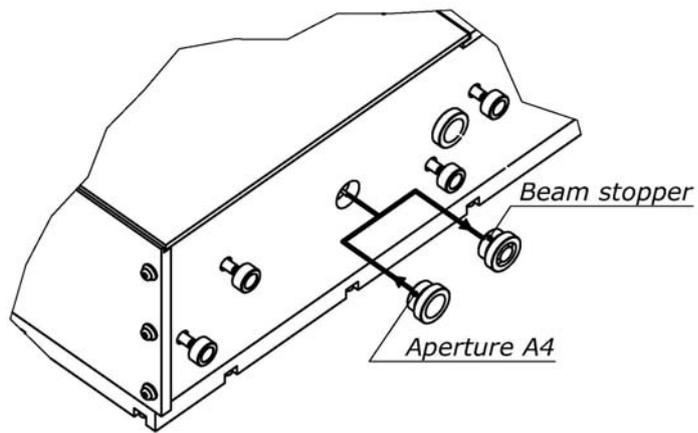

Fig. 8
13. Remove the beam stopper and screw in aperture A4 (**Fig. 8**).